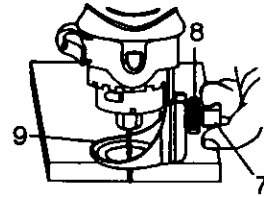

Fig. 11
- 1 Adjust precision handle sole plate depth by loosening the depth gauge locking knob (7) and rotating the adjusting knob (8) to move the sole plate (9) in or out as required (see Fig. 11).